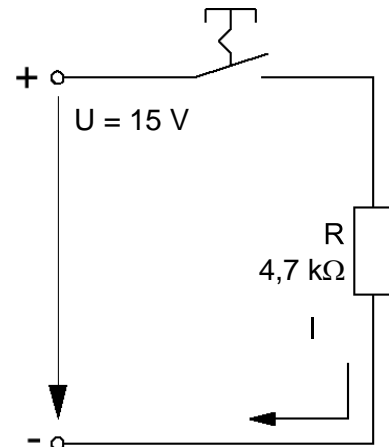

Fig. 1.3.1: Task for Ohm's law
- Calculate the current I , flowing through the resistor R , shown in Fig. 1.3.1, when the switch is closed.